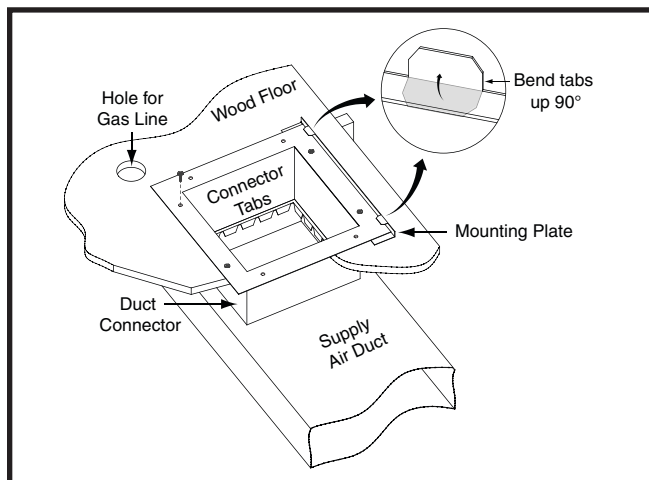

Figure 8. Standard Duct Connector Installed
- Mark the cut-out area on the supply air duct by tracing around the connector tabs of the duct connector. See Figure 8 \(page 7\).
- Install the mounting plate under the back side of the duct connector as shown in Figure 8. Align the screw holes in both components.